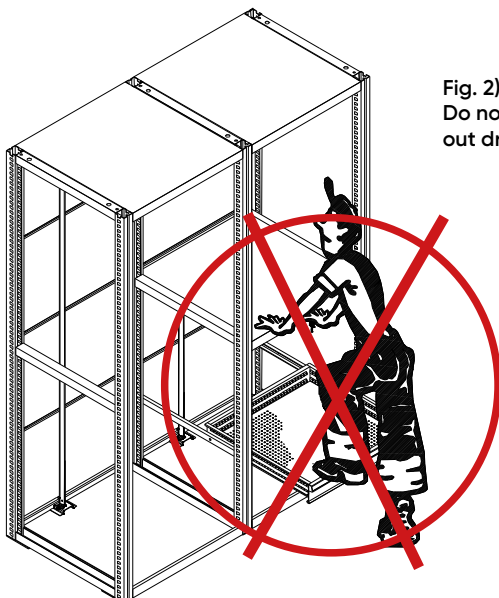

Fig. 2)
- using the racks as a ladder (fig. 2).